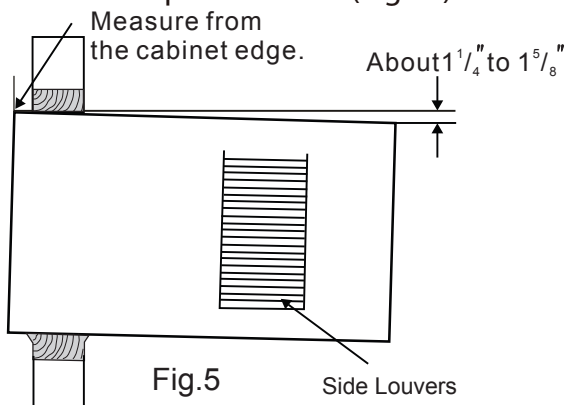

Fig.5
3. Position cabinet to achieve proper slope for water removal.(See Fig.5 below.)